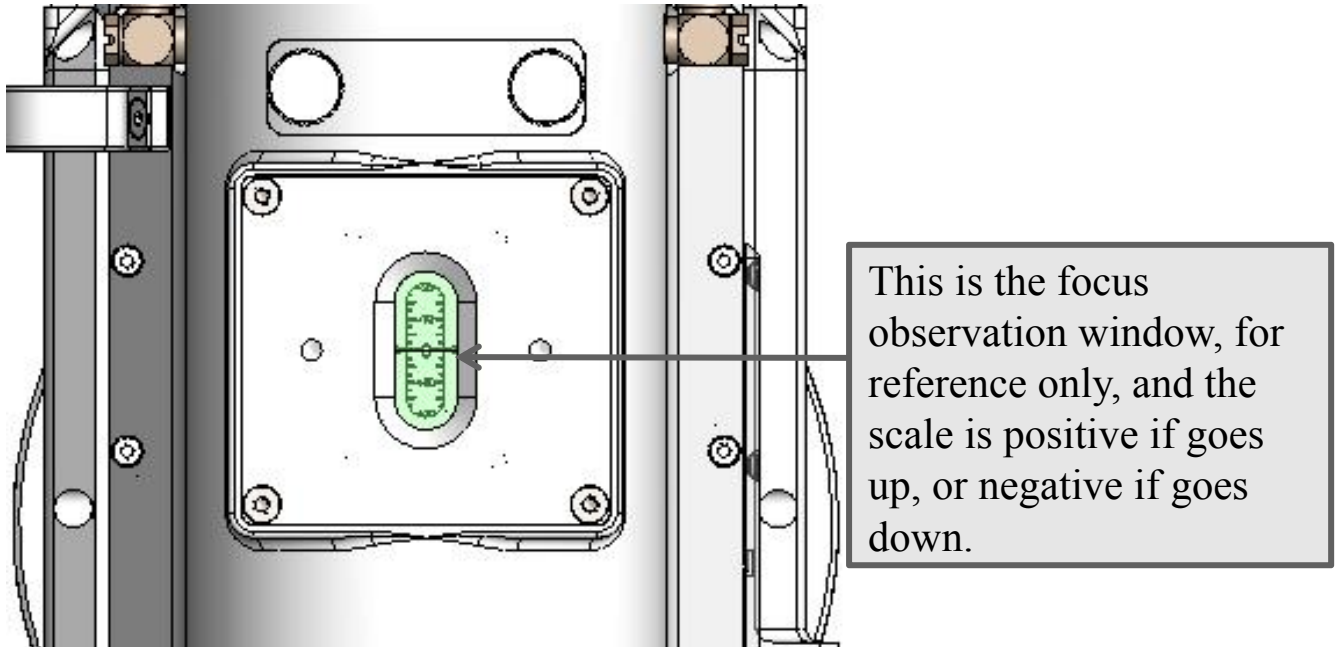

Figure 3.1
② After setting, open the cutting software and reset the focus to observe whether the focus moves, as shown in Figure 3.1: